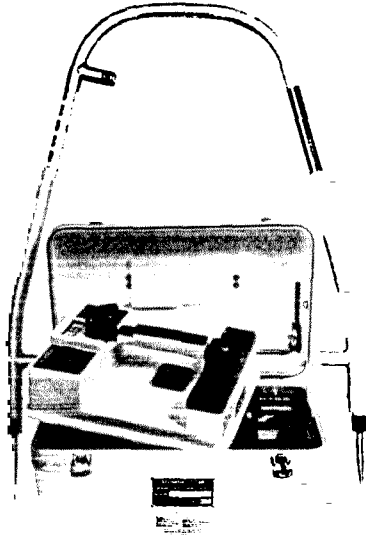

Figure 1 — Dynatel 573A Earth Fault and Cable Locator
- 1.01 This section covers the description, use, care and maintenance of the Dynatel 573A Earth Return Fault and Cable Locator (Fig. 1).